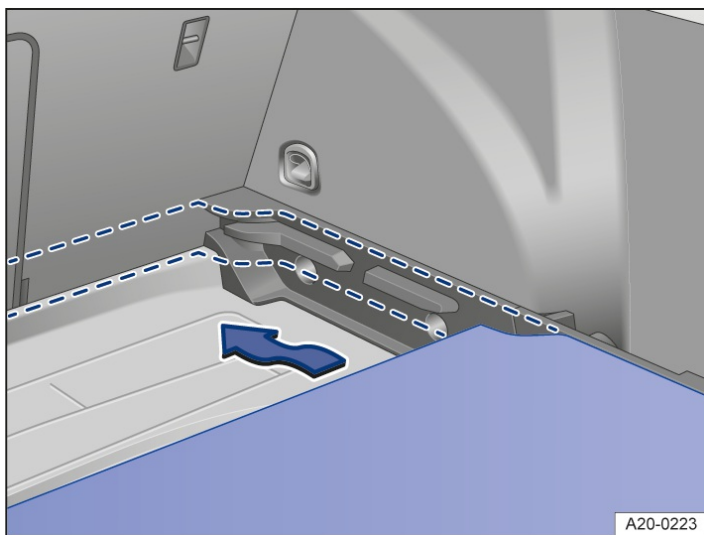

Fig. 3 In the luggage compartment: lowering the luggage compartment floor
2. Insert the luggage compartment floor into the guides at the required height and push it forwards in the direction of the arrow as far as it will go → Fig. 3.